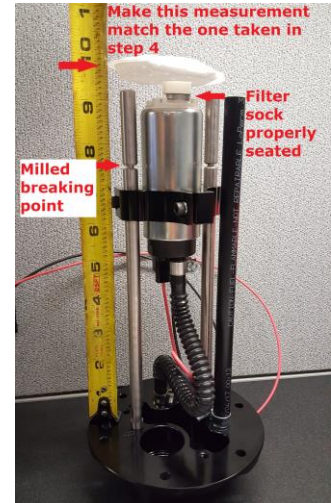

Figure 3: Example pump hanger assembly showing the measurement to be taken in step 6
6. Take a measurement from the pump hanger flange to the top of the filter sock. If this measurement is longer than the measurement that was taken in step 4 then lower the pump until the two measurements are the same. If this measurement is shorter than the measurement taken in step 4 then raise the pump. **See Figure 3.**
3. Place the short end of the rods in a vice and then grab the long end and push/pull the rods should break at the milled break point. **Shown in Figure 3.**
7. Take a measurement from the pump hanger flange to the top of the filter sock. If this measurement is longer than the measurement that was taken in step 6 then lower the pump until the two measurements are the same. If this measurement is shorter than the measurement taken in step 6 then raise the pump. **See Figure 3**
3. Place the short end of the rods in a vice and then grab the long end and push/pull the rods should break at the milled break point. **Shown in Figure 3**